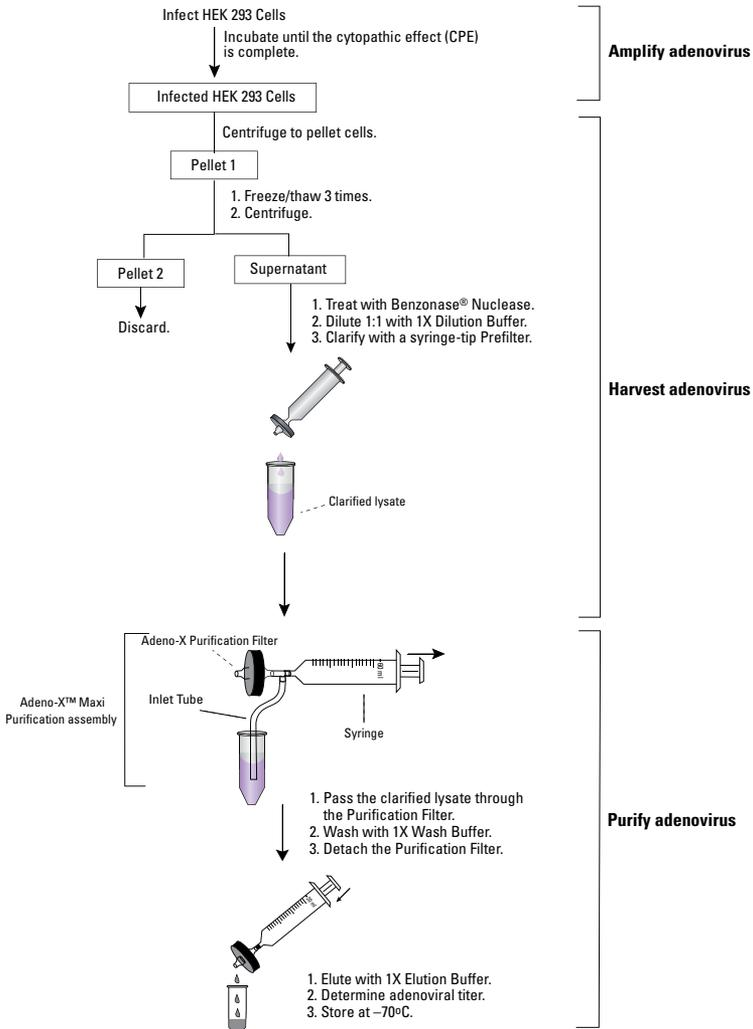

Figure 3. Overview of the Adeno-X Maxi Purification Protocol.
| Figure 3. Overview of the Adeno-X Maxi Purification Protocol | 8 |
The procedure is simple. After the cytopathic effect is complete, the cells are harvested, lysed, and centrifuged. The resulting supernatant is then treated with Benzonase® Nuclease to digest nucleic acids, and cleared (clarified) through a syringe-tip pre-filter. Next, a syringe is used to push the virus-containing extract through the purification cartridge, where the adenoviral particles bind to the filter. The bound particles are then eluted with a small volume of buffer. The entire protocol, from harvest to purification, takes just 1-1.5 hours to complete (Figure 3). Aliquots of the purified, high-titer adenoviral stock can be stored in Elution Buffer at -70°C. Please note: All of these steps must be conducted under sterile conditions in a Biosafety Level 2 certified hood.
C. Harvest Adenovirus (See Figure 3 for a procedural diagram)